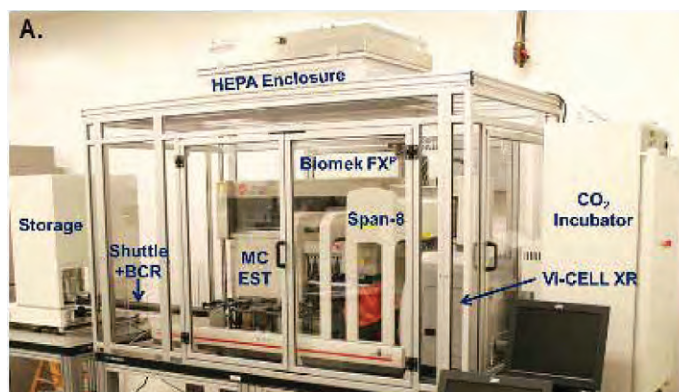

Figure 14. Cell culture system.
Figure 14. Measuring transfection efficiency and cytotoxicity. PANC-1 cells were transfected with FAM-labeled siRNA oligonucleotides (siGLO) for 24 hours, stained with DraG7 to identify cytotoxic cells, and imaged with the SpectraMax MiniMax Cytometer. (A) Brightfield image utilized for total cell counts. (B) 541 nm image utilized for transfected cell counts. (C) 713 nm image utilized for dead cell count. (D) Overlay of all three images.
Three-dimensional (3D) cell cultures offer greater physiological relevance than monolayer cultures for cellular interaction studies and compound screens. However, manual manipulations of these cultures can be laborious and challenges are amplified as sample throughput increases. We used the Biomek FX^P Workstation (Figure 14) to automate the culture and drug sensitivity screening of cancer spheroids in Perfecta3D[®] Hanging Drop Plates (Sigma-Aldrich). Automated steps include the plating of cells and addition of compounds to the hanging drops to induce apoptosis (Figure 15). Staining reagents were also added to analyze the spheroids by high-content imaging (Figure 16). Finally, the transfer and dissociation of the spheroids into single cell suspensions was automated to enable flow cytometry analysis (Figure 17). Automated hanging drop cancer spheroids showed excellent consistency (Figure 18) across wells and analyzing these spheroids by two complementary methods generated a more complete picture of drug responses in 3D cultures.